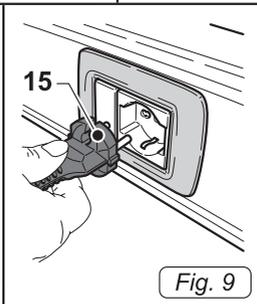

Fig. 9
- Remove the plug (15 Fig. 9) from the socket.
- Insert the plug (15 Fig. 9) into the socket.